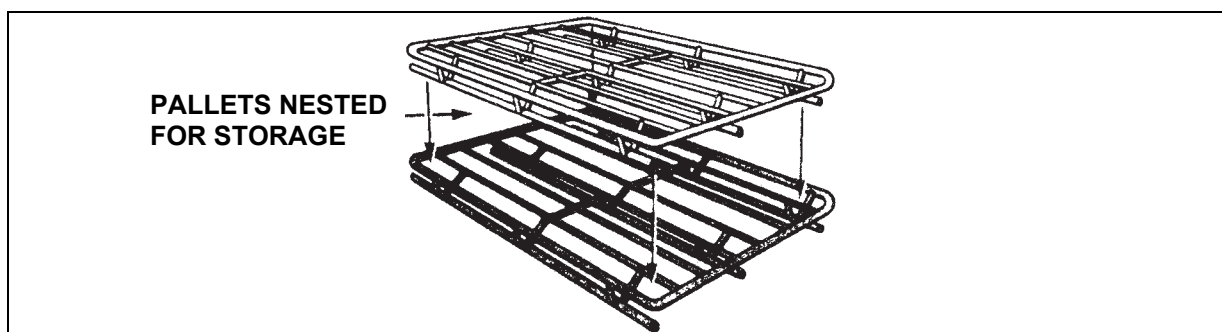

Figure 9-1. Four-Way Pallet (Nestable Tubular Steel)
- **Pallets.** Four-way pallets are platforms 40 inches by 48 inches by approximately 4 inches high, constructed of welded steel (figure 9-1) or hardwood, usually oak. They are designed to be lifted by a forklift truck from either side. Cargo should be banded or strapped to pallets to provide a stable and secure load.